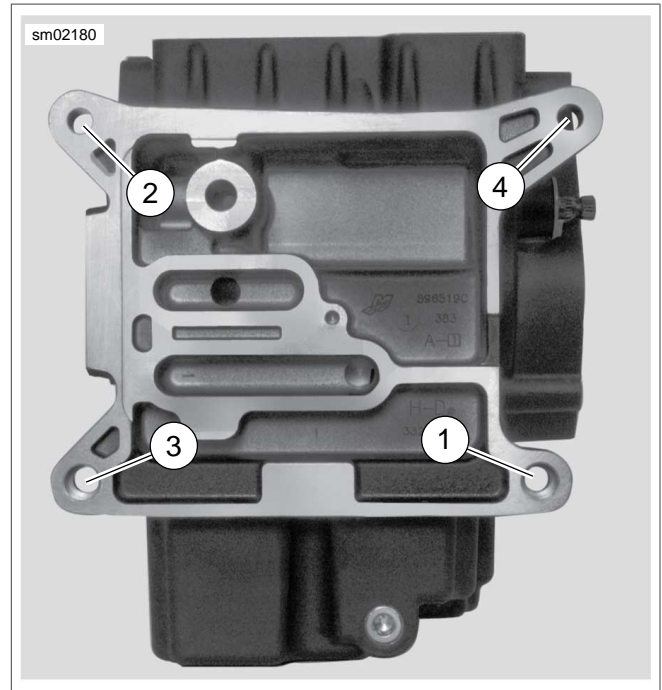

Figure 6-51. Transmission Housing to Crankcase Torque Sequence
- b. See Figure 6-51. Tighten bolts in the sequence shown to 15 ft-lbs (20.3 Nm) in the same crosswise pattern.